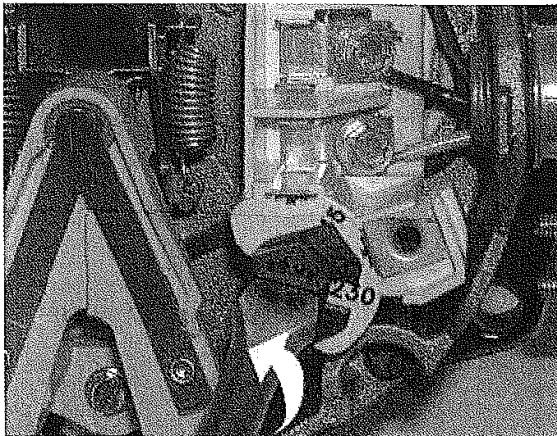

Figure 3: Changing the Voltage Setting
7. Connect current carrying conductors to terminals L1 and L2 under motor canopy. When replacing motor, check wiring diagram on motor nameplate against Figure 3. If the motor wiring diagram does not match either diagram in Figure 3, follow the diagram on the motor.